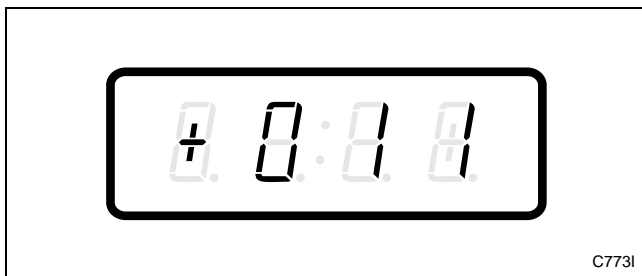

Figure 19
3. Press the DELICATES (+) or the COLD (-) keypad to scroll through the programmable options until “+011” appears in the VFD. Refer to *Figure 19*.